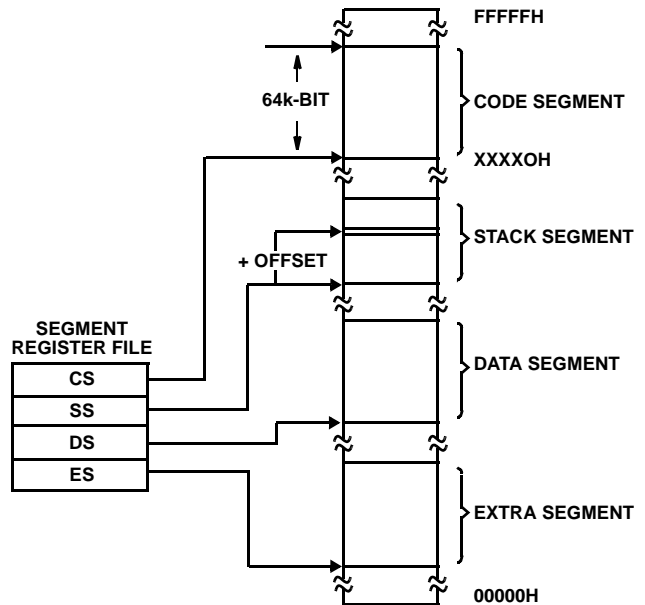

FIGURE 1. 80C86 MEMORY ORGANIZATION
The processor provides a 20-bit address to memory, which locates the byte being referenced. The memory is organized as a linear array of up to 1 million bytes, addressed as 00000(H) to FFFFF(H). The memory is logically divided into code, data, extra and stack segments of up to 64k bytes each, with each segment falling on 16-byte boundaries (see Figure 1).